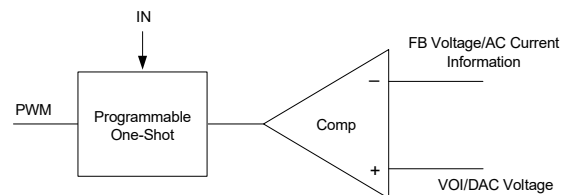

Figure 9. Simplified Control Schematic
The control algorithm of AOZ2231CQI-21 is constant-on-time PWM control with input feed-forward. The simplified control schematic is shown in Figure 9. The high-side switch on-time is determined solely by a one-shot whose pulse width is inversely proportional to input voltage (IN). The one-shot is triggered when the internal VOI/DAC voltage is higher than the combined information of output voltage and the AC current information of inductor, which is processed and obtained through the sensed low-side MOSFET current once it turns-on. The added AC current information can help the stability of constant-on time control even with pure ceramic output capacitors, which have very low ESR. The AC current information has no DC offset, which does not cause offset with output load change, which is fundamentally different from other  $V^2$  constant on-time control schemes.